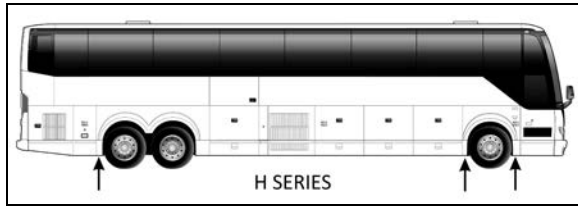

FIGURE 5: JACKING POINTS ON FRAME
1. Raise vehicle by its jacking points on the body (Figure 5 or see Section 18, "Body" under heading "Vehicle Jacking Points"). Place jack stands under frame. Remove drive axle wheels (if required, refer to Section 13, "Wheels, Hubs And Tires").